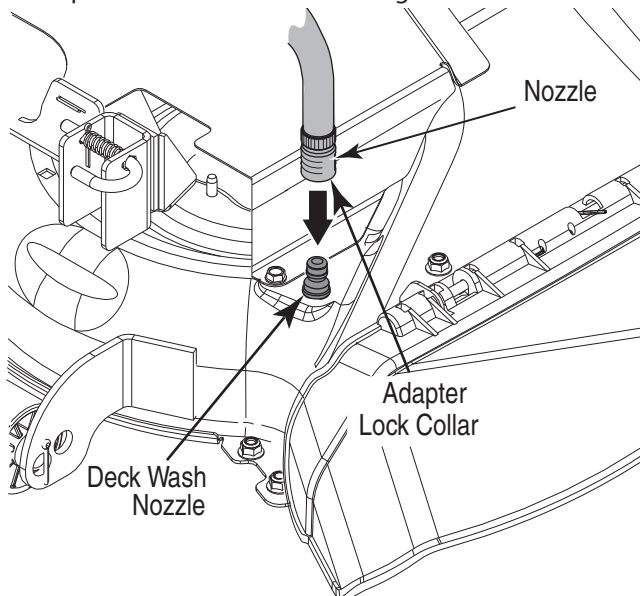

Figure 6-6
4. Pull back the lock collar of the nozzle adapter and push the adapter onto the deck wash nozzle at the left end of the mower deck. Release the lock collar to lock the adapter on the nozzle. Refer to Figure 6-6.